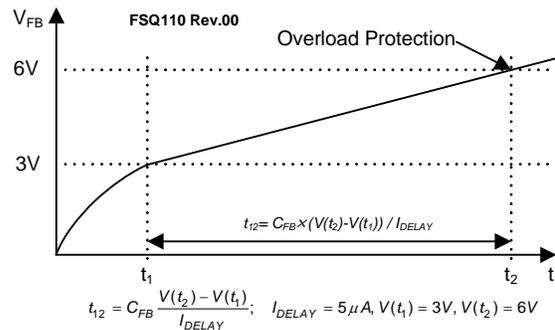

**Figure 14. Pulse Width Modulation Circuit**
**2. Feedback Control:** The FSQ110 employs current-mode control as shown in Figure 14. An opto-coupler (such as the H11A817A) and shunt regulator (such as the KA431) are typically used to implement the feedback network. Comparing the feedback voltage with the voltage across the  $R_{sense}$  resistor of SenseFET, plus an offset voltage, makes it possible to control the switching duty cycle. When the shunt regulator reference pin voltage exceeds the internal reference voltage of 2.5V, the opto-coupler LED current increases, the feedback voltage  $V_{FB}$  is pulled down and thereby reduces the duty cycle. This typically happens when the input voltage increases or the output load decreases.
**4.3 Over-Voltage Protection (OVP):** In the event of a malfunction in the secondary-side feedback circuit or an open-feedback loop caused by a soldering defect, the current through the opto-coupler transistor becomes almost zero (see Figure 14).  $V_{FB}$  climbs up in a similar manner to the overload situation, forcing the preset maximum current to be supplied to the SMPS until the overload protection is activated. Because excess energy is provided to the output, the output voltage may exceed the rated voltage before the overload protection is activated, resulting in the breakdown of the devices in the secondary side. To prevent this situation, an Over-Voltage Protection (OVP) circuit is employed. In general,  $V_{CC}$  is proportional to the output voltage and the FPS uses  $V_{CC}$  instead of directly monitoring the output voltage. If  $V_{CC}$  exceeds 19V, the OVP circuit is activated, resulting in termination of the switching operation. To avoid undesired activation of OVP during normal operation,  $V_{CC}$  should be designed to be below 19V.